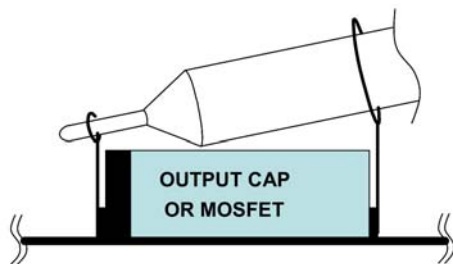

FIGURE 2. PROPER PROBE SETUP TO MEASURE OUTPUT RIPPLE AND PHASE NODE RINGING
5. Use an oscilloscope to observe output voltage ripple and phase node ringing. For accurate measurement, refer to Figure 2 for proper test setup.